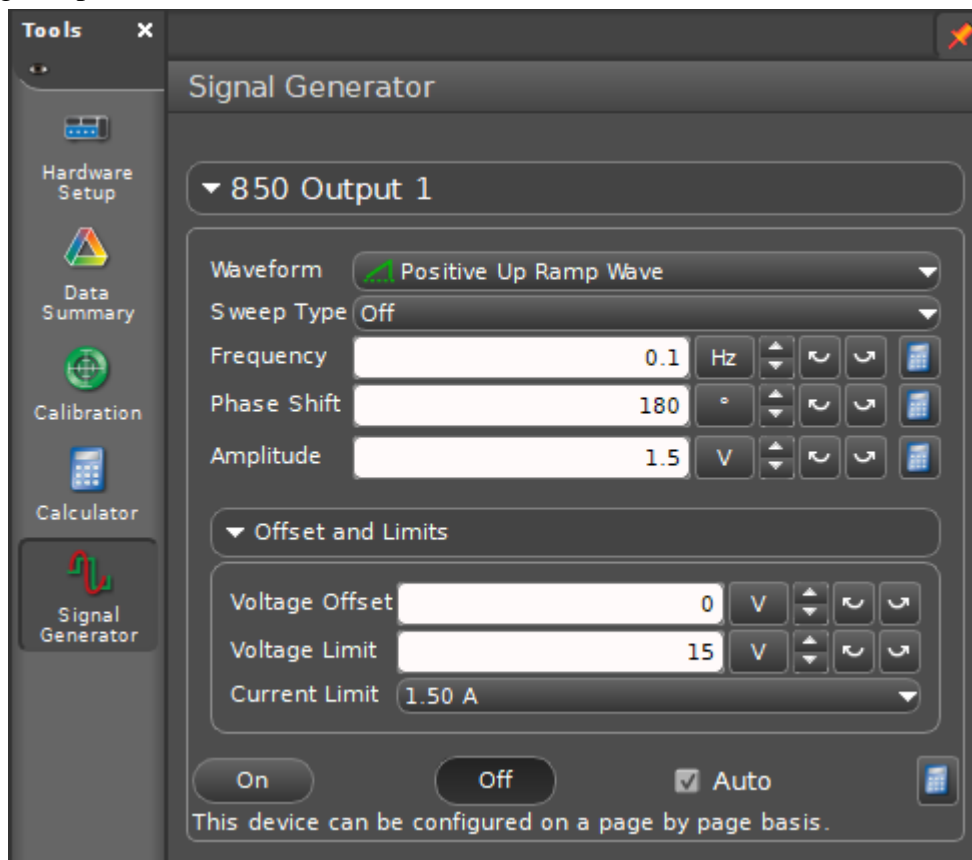

Figure 7: Setting the signal generator
4. Open the Signal Generator (see Fig. 7) and set the waveform to Positive Up Ramp Wave. Set the frequency to 0.1 Hz, the phase shift to  $180^\circ$ , and the amplitude to 1.5V. The frequency generator is now set to ramp up its voltage, to slowly increase the pulling force over a 10 second period. If the trays don't break free and move in that time, increase the voltage amplitude.